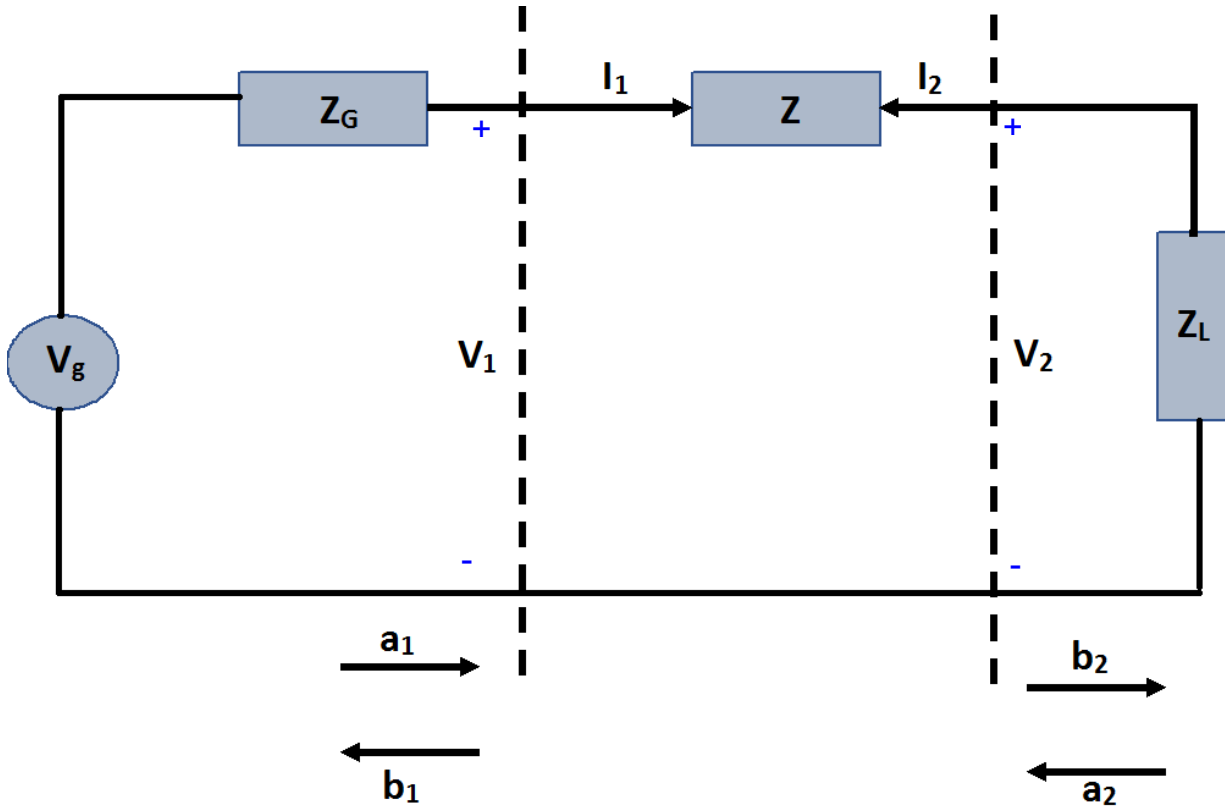

Figure 1: Two port network
In the 2-port network shown in Figure 1, the incident waves, the waves coming into the 2-port network, are defined as a_1 and a_2 while the reflected waves at each port are defined as b_1 and b_2 . When $Z = 0$ and $Z_G = Z_L$, we have a matched load and therefore maximum power transfer at the load with $V_1 = V_2 = V_g/2$.
Task 1: Consider a 2-port network as shown in Figure 1 where $Z_G = Z_0$ and $Z = 0$. Using equations (2) and (3), prove;
Task 2: Now consider a 2-port network as shown in Figure 1 where $Z_G = Z_L = Z_0$ and $Z \neq 0$. Using equations (2) and (3), prove;